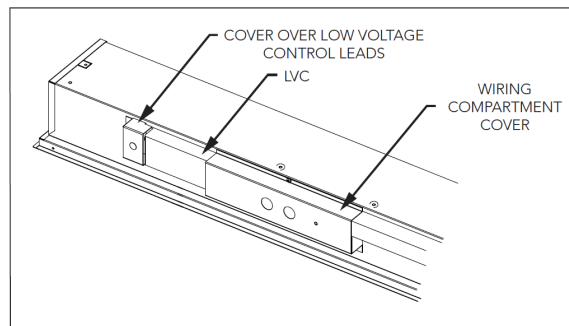

Figure 7
2. The other end of the LVC has low voltage leads that must be connected to the control switch(s) supplied by others. (See Figure 7) This end of the LVC has a small metal cover. Loosen the screw and remove the cover.